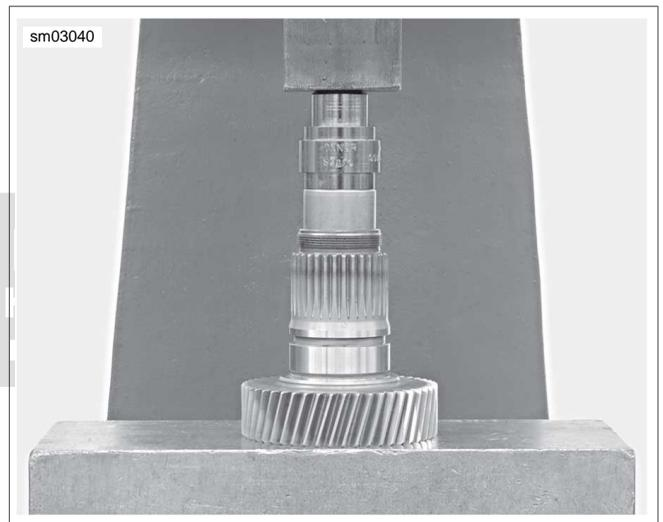

Figure 7-40. Installing Clutch Side Needle Bearing in Main Drive Gear
3. See Figure 7-40. Install clutch side needle bearing using an arbor press and the 0.400 in. step end of tool as shown. Press until tool contacts gear.